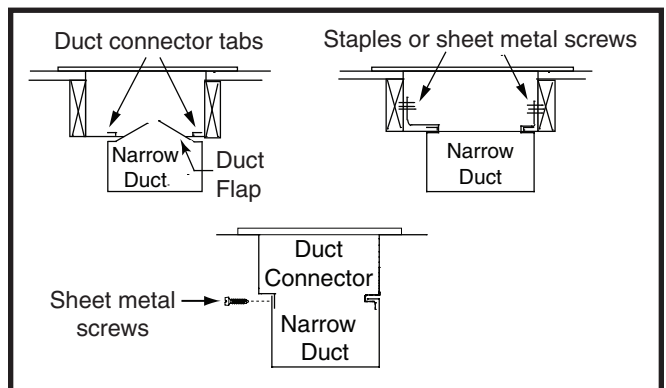

Figure 12. Narrow Ducts
4. Bend the tabs on the bottom of the duct connector upwards and as tight as possible against the supply air duct. See Figure 12 \(page 8\).